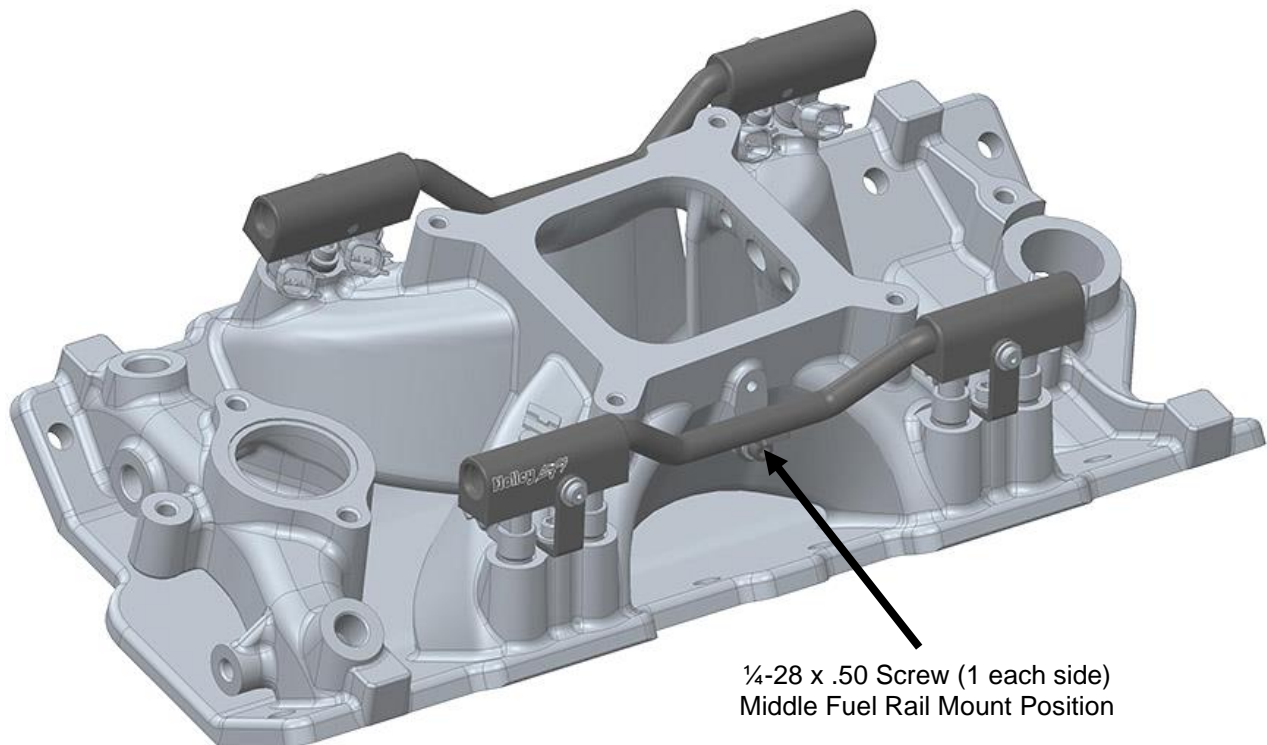

Figure 4
8. Assemble the fuel rails to the injectors. Check to see that the fuel rail brackets are oriented correctly for attachment of the fuel rails, then attach fuel rails to brackets (**Figure 4**) using 4 - 1/4" washers and 4 - 14-28 x 1.0 low profile SHC screws with thread locking compound. Torque each screw to 75 in-lbs., then torque again to 90 in-lbs.